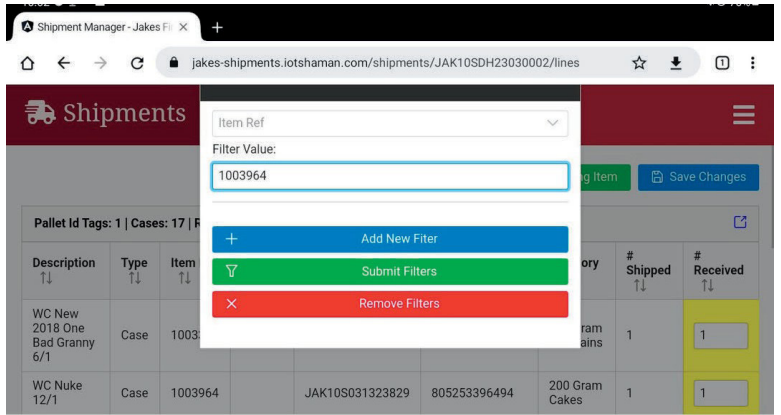

Figure 8
- e. Select SUBMIT FILTER (Figure 8)